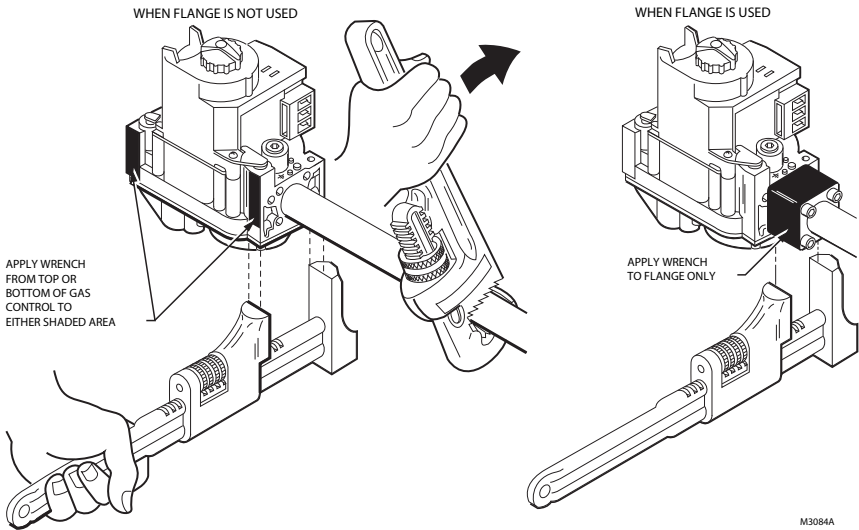

Fig. 5. Proper use of wrench on gas control with and without flanges.
Complete the instructions below for installing the piping, installing the control, connecting the pilot gas tubing and the wiring. Make sure the leak test you perform on the control after completing the installation includes leak testing the adapters and screws. If you use a wrench on the valve after the flanges are installed, use the wrench only on the flange, not on the control. See Fig. 5.
6. Connect the pipe to the control inlet and outlet. use a wrench on the square ends of the control. If a flange is used, place the wrench on the flange rather than on the control. Refer to Fig. 5 and 6.